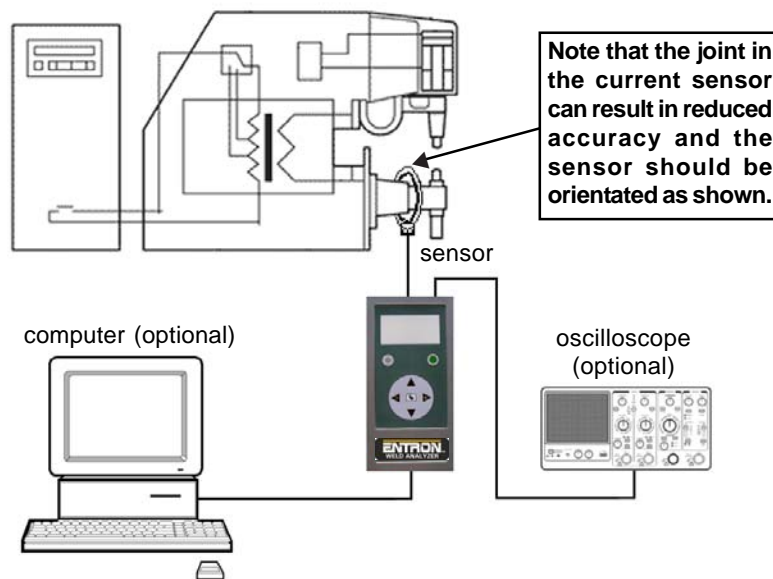

Figure 2-2. WA2 connections
Connect the WA2 as shown in Figure 2-2.
1. Connect the WA2 sensor to the welding machine and ensure the sensor is connected securely to the WA2 (see Figure 2-2).